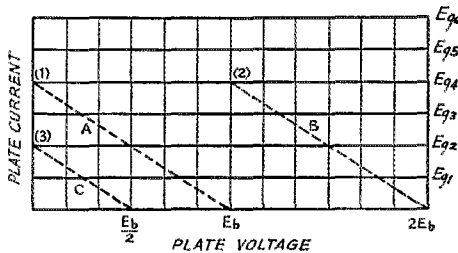

FIG. 1—PLATE FAMILY OF AN IDEAL PENTODE
First, it may be stated that it is not entirely impossible to plate-modulate the ordinary pentode. The characteristic curves of an ideal pentode are shown in Fig. 1. For fixed control-grid and screen voltages the plate current is constant for any value of plate voltage. Suppose such a tube were operating Class-C at a d.c. plate potential,  $E_b$ , a constant peak excitation,  $E_{p4}$ , and a fixed screen voltage and load, so that the plate current pulse flowed over some line, *A*, and the peak of the pulse occurred at (1). If the d.c. plate voltage is doubled the plate current pulse will flow over line, *B*, and peak at point (2). The peak current is unchanged, the fundamental component will be relatively unchanged, and there would be no increase in output. However, if the d.c. voltage is decreased to the value,  $\frac{E_b}{2}$  the plate current